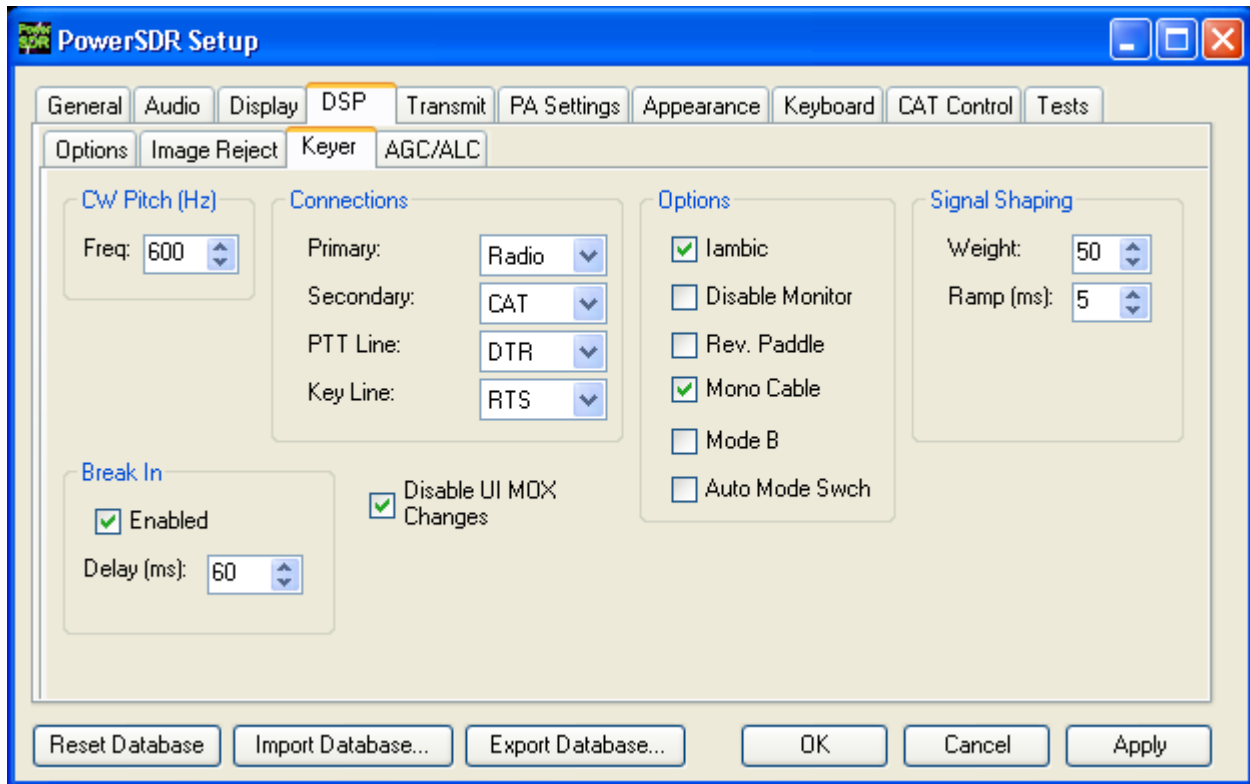

Figure 42: Setup Form – DSP Tab, Keyer Sub-Tab
2. Next, in PowerSDR open the **Setup Form – DSP Tab, Keyer Sub-Tab** shown in Figure 42 below to access the Internal Keyer controls.